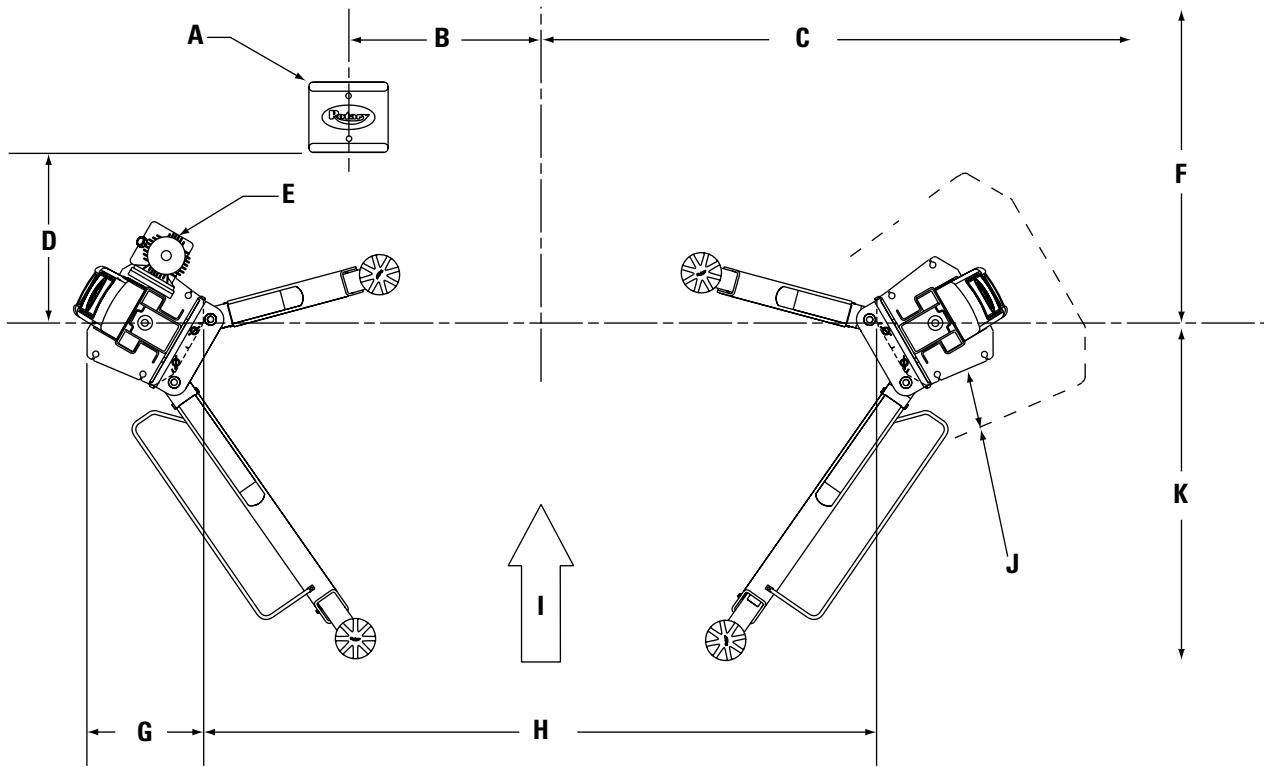
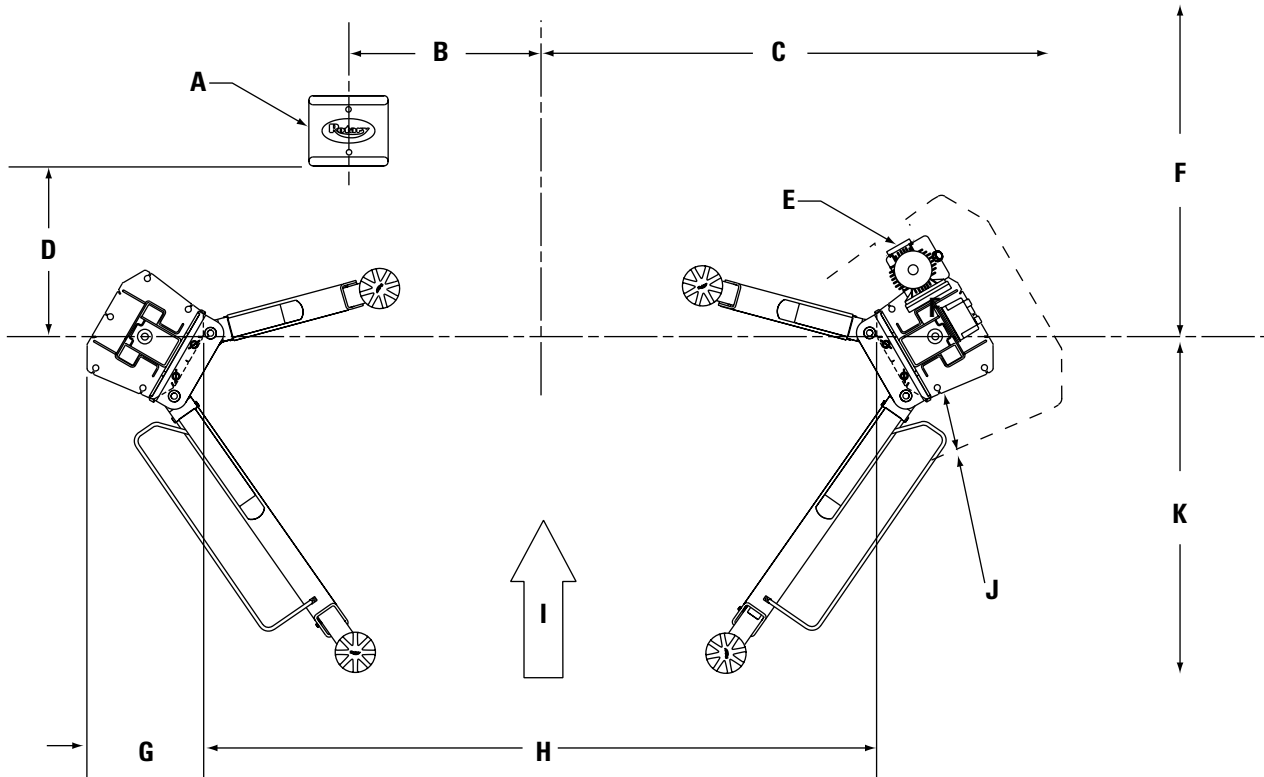

Fig. 1a
Fig. 2a
1. Lift Location: Use architects plan when available to locate lift. Fig. 1a, 1b or Fig. 2a, 2b shows dimensions of a typical bay layout.
5. Lift Setting: Position columns in bay using dimensions shown in Fig. 1a, 1b or Fig. 2a, 2b. With column lying on the floor, two people can lift the top of the column and walk towards the base. As the column approaches vertical, one of the two people should move to the opposite side of the column and assist in slowly setting the column flat on its base. Both column base plate backs must be square on center line of lift. Notches are cut into each base plate to indicate center line of lift. Using appropriate equipment, raise carriage to first latch position. Be sure locking latch is securely engaged.